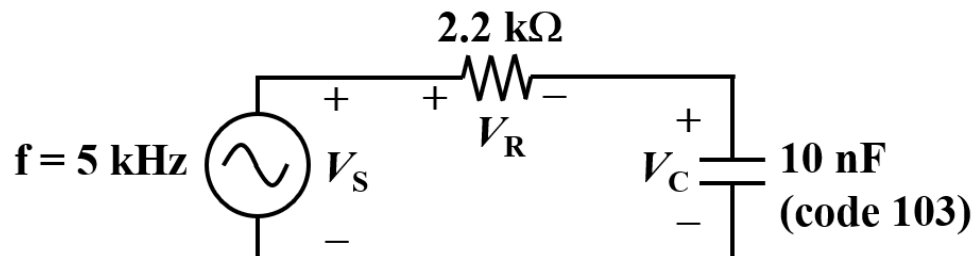

Figure 1: RC circuit powered by a sinusoidal source.
2. Using the breadboard, construct the RC circuit shown in Figure 1. Use your multimeter to measure the actual resistance of the 2.2 k Ω resistor and note down its value in your learning journal. The sinusoidal voltage source is implemented using BitScope's waveform generator. Use the AWG probe as the "+" terminal of the sinusoidal voltage source and connect CHA's probe to it as well. Next, use the GND probe below CHA as the "-" terminal of the sinusoidal voltage source. This will be regarded as the common ground in the circuit.
3. Run BitScope DSO on your computer. Turn on the power to your BitScope, and turn on its waveform generator by clicking on "WAVE" in the "Scope Selectors (2)" panel (see Appendix for its position). In the "FUNCTION GENERATOR" panel (top left), right-click on the frequency and select **5 kHz**. Check that the peak-to-peak voltage is set as **3.3 V**. For the DC offset (i.e., the box beside the peak-to-peak voltage setting), left-click it and drag its value downward to **0 V**. In the "Channel Controls (7)" panel, change the voltage per division of CHA to **500 mV/Div**.
4. Next, we will use BitScope's CHB to observe the capacitor's voltage V_C . The "+" and "-" polarities of V_C are as defined in Figure 1. (Note: the polarities here are meant for the voltage's definition; the ceramic capacitor itself does not have a preferred polarity.) Connect CHB's probe to the "+" polarity of V_C , and the GND probe to its "-" polarity. Turn on CHB in the "Channel Controls (7)" panel, and set its voltage per division to **500 mV/Div**.
5. We will now perform measurements for V_S on CHA. Click on “TRACE” in the “Timebase Control (6)” panel to freeze the waveforms. Turn on “CURSOR” in the “Scope Selectors (2)” panel. To measure the peak-to-peak voltage of V_S , click on “CHA” in the “Channel Controls (7)” panel, then right-click on the brown voltage box in the “Cursor Measurements (5)” panel to select “MAX”. Right-click on the dirty-green box directly underneath the brown box, and select “MIN”. The peak-to-peak voltage of V_S is now shown in the yellow box directly underneath the dirty-green box. You can obtain the amplitude of V_S as half of this peak-to-peak value. Also calculate its RMS value. Enter the above values into Table I below.